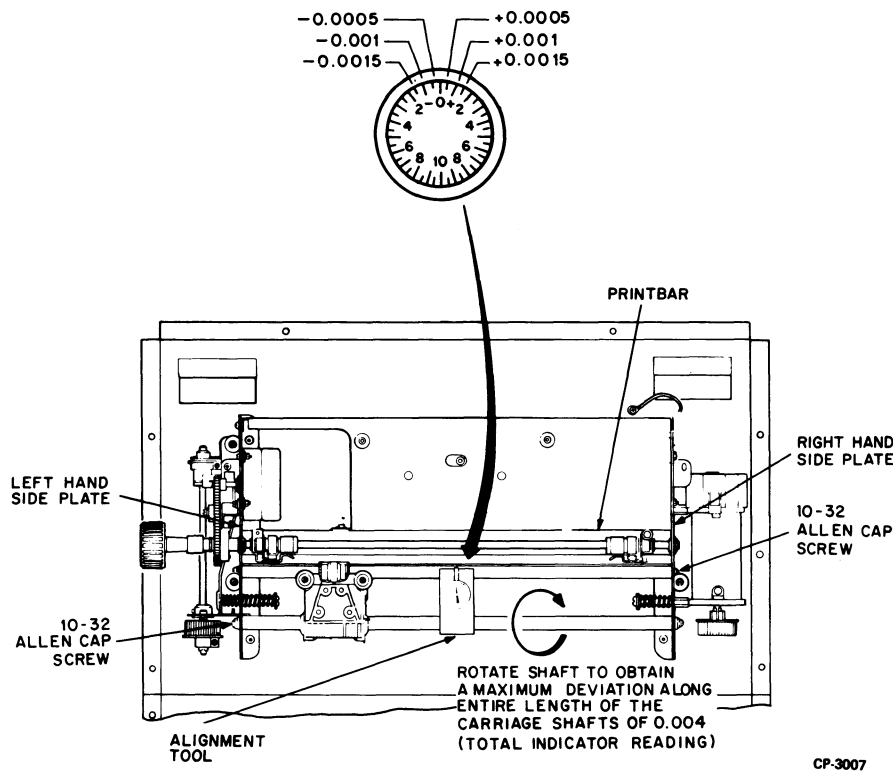

Figure 7-11 Carriage Shaft Parallelism/Alignment
13. Slide the alignment gauge along the total length of the carriage shafts. It may be necessary to rotate the front carriage shaft (Figure 7-11), and/or add shims to obtain the following values: